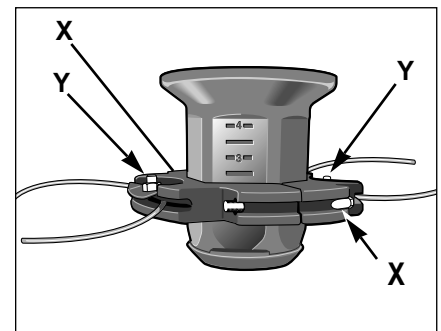

Figure 2-6
Check the tightness of the hardware securing the trimmer head at two locations (X, Figure 2-6) and the hardware that secures the line clamps at two locations (Y). You may rotate the trimmer head by hand to make access to the hardware easier. Tighten the hardware securely.